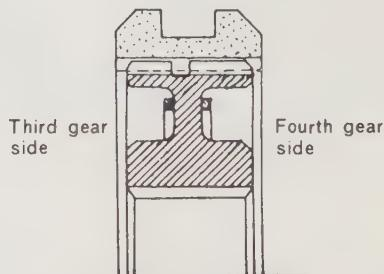

Fig. 6.16. Synchronizer hub fitting direction
- Assemble three synchronizer inserts, synchronizer sleeve and two synchronizer springs on the hub so that the spring cut-ends are 120° apart and the synchronizer hub is fitted with the end of the spline having the narrower tooth width is on the 3rd gear side (see Fig. 6.16). **Note:** There are two kinds of inserts the short one is for the 3rd/4th synchronizer, while the longer one is for 1st/2nd synchronizer.